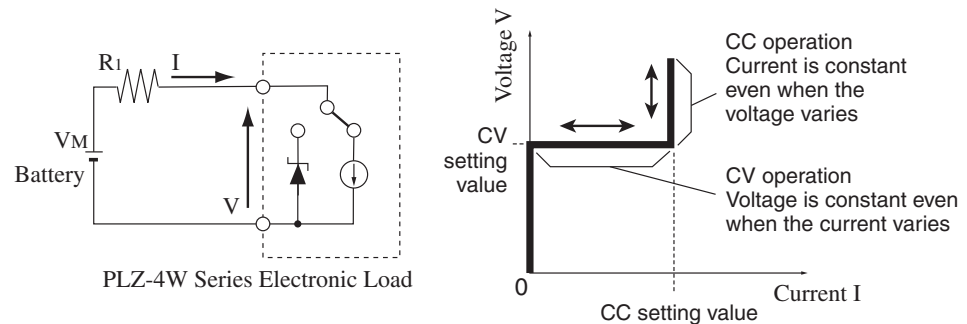

Fig. A-12 Equivalent circuit of the CC+CV mode and operation
When the PLZ-4W is used in CC+CV mode, the PLZ-4W operates as a constant current load and a constant voltage load (shunt regulator) as shown in Fig. A-12. When operating as a constant current load, the PLZ-4W sinks the specified current (I) independent of the output voltage of the constant-voltage power supply (V_M). When operating as a constant voltage load and V_M is greater than V , the input voltage V is kept constant even when the input current I varies. Current does not flow when V_M is less than or equal to V .
The switching between the modes is automatic. In the Fig. A-12, R_1 is the internal resistance of the constant-voltage power supply. In constant-voltage (CV) mode, the PLZ-4W may operate unstably if R_1 is low.
We will consider the case when checking the discharge characteristics of a battery of Fig. A-12.